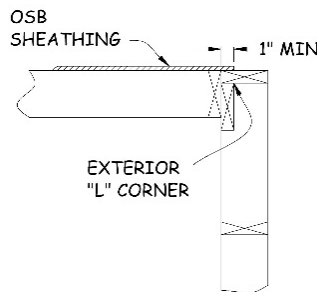

Figure 3-7. Exterior L-Corner.
5. At each end of the long walls, layout an L-corner with two 2x6 studs made up of the normal 2x6 end stud plus an extra 2x6 stud perpendicular to the end stud on the interior side of the wall (see Figure 3-7). Mark the “L” as “Corner Down” to specify that the extra 2x6 will lay face down on the deck as the wall is being built. This will place the existing 2x6 stud facing the end of the adjoining short wall forming an inside corner.